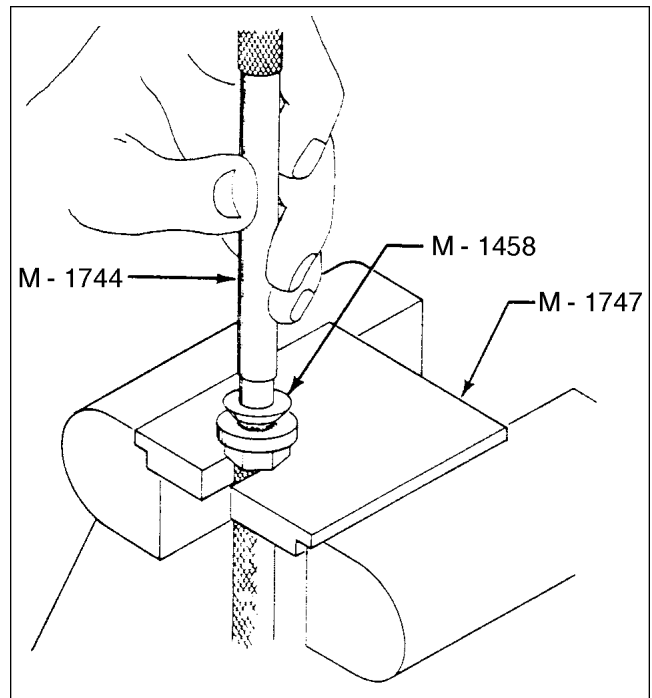

Figure 8-28. Driving Tool
3. Mount M-1747 Drive Plate in a bench vise. Set the hex ferrule in the slot of the drive plate. Drive the M-1458 Drive Ferrule flush against the hex ferrule using the M-1744 Drive Tool. Refer to Figure 8-28